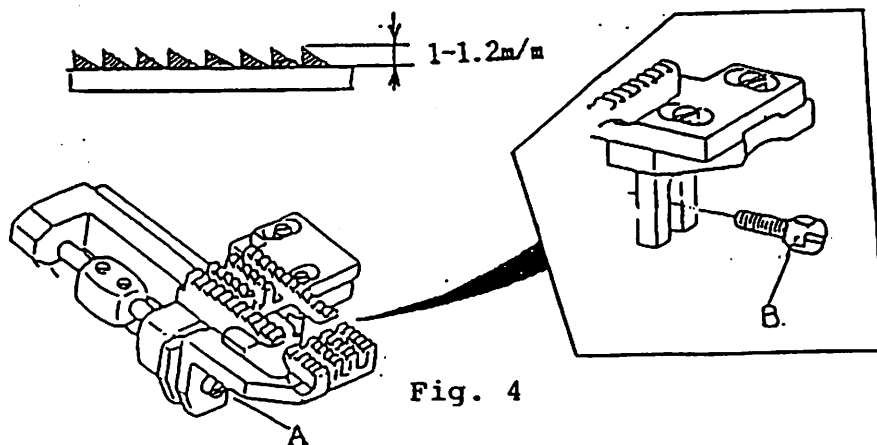

Fig. 4
6. Height of Feed Dog (Refer to Fig. 4.)